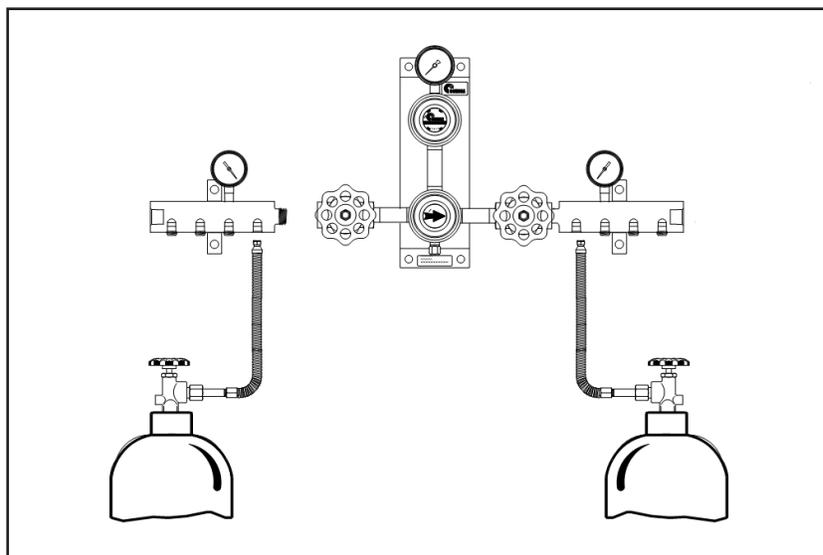

Figure 5
16. Install the pigtail into the micro-manifold ¼" F-NPT port as illustrated in Figure 5.
18. Install the pigtail into the micro-manifold ¼" F-NPT port as illustrated in Figure 5.